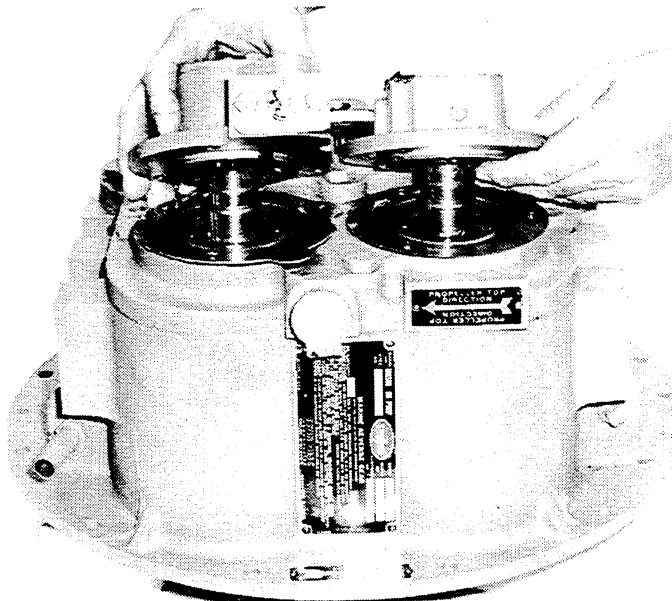

Figure 6-6. Removing or Installing Pump Mount and Valve Body Together.
15. Loosen the hex-head cap screw (Figure 12-1, 17), and nut (20), and remove selector lever (19). Remove the three hex-head cap screws (34) and (30) that secure the selector valve assembly (29) to the rear cover (14). Simultaneously, remove the pump mount and selector valve assembly from the rear cover. See Figure 6-6. Remove the two jumper tubes (Figure 12-1, 36), and four O-ring seals (35 and 37) from between the pump mount and selector valve assembly. Remove the pump mount shims (38) and O-ring (48), and valve body shims (16) from the rear cover.